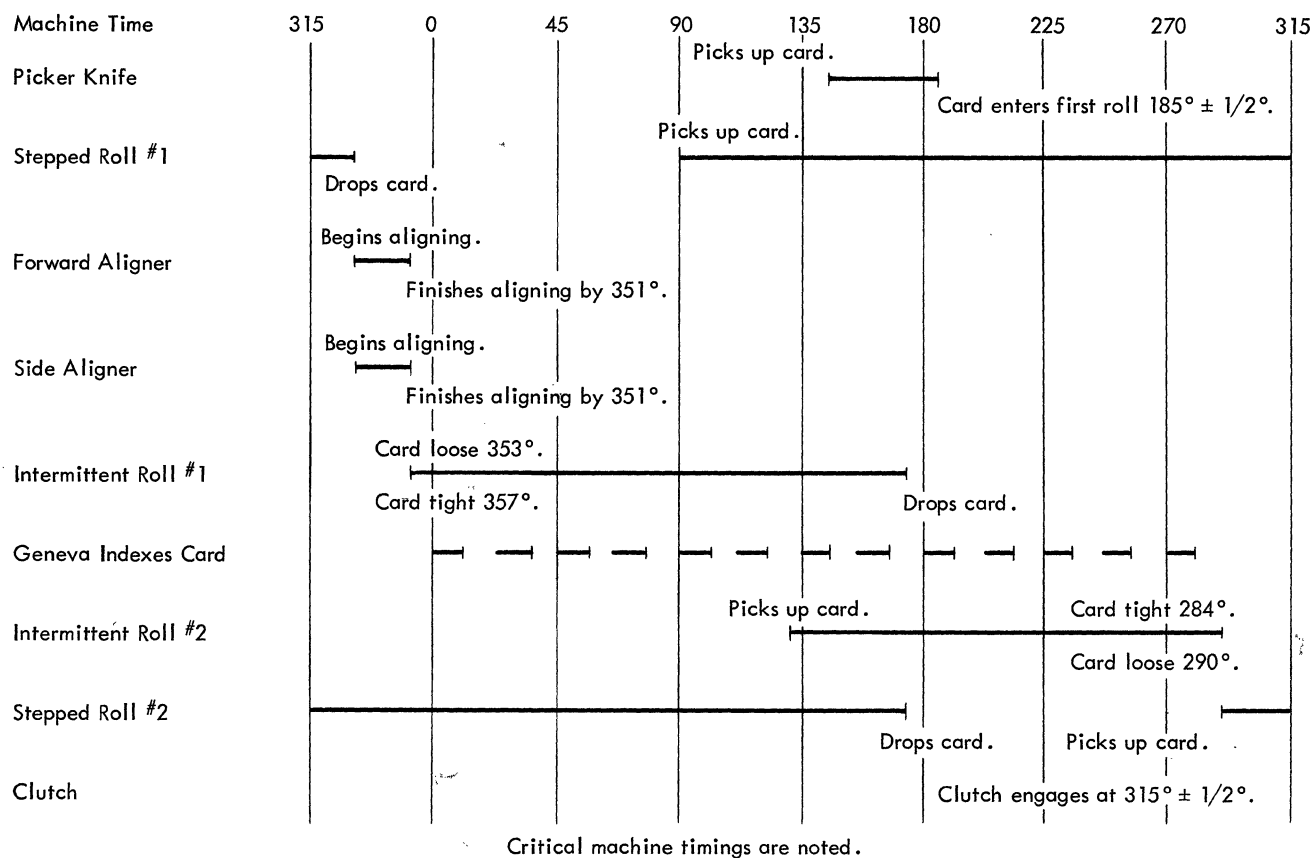

Figure 3-57. Punch Transport Timing
4. Check that each card is free at 353° and gripped tight at 357°. This indicates that the first, intermittent feed roll is in time (Figure 3-57).
7. Turn the feed slightly backwards. The cards should still be free at 290° and gripped tight at 284°. This indicates that the second intermittent roll is in time (Figure 3-57).
6. Check that each card is free at 353° and gripped tight at 357° (Figure 3-57).
5. Check to see that each card is free at 290° and gripped tight at 284° (Figure 3-57).